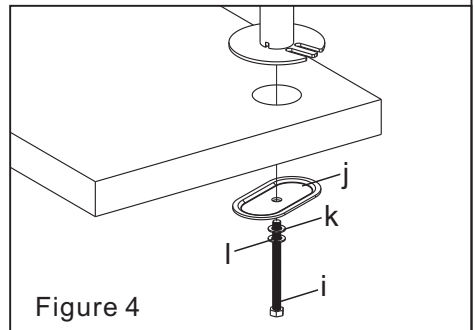

Figure 4
2. Position the Pole(a) on the mounting surface and secure using the Support Plate(j), M10 Washer(k), Spring Washer(l) and M10 Bolt(i). Fasten the M10 Bolt using provided Wrench(p), see Figure 4.